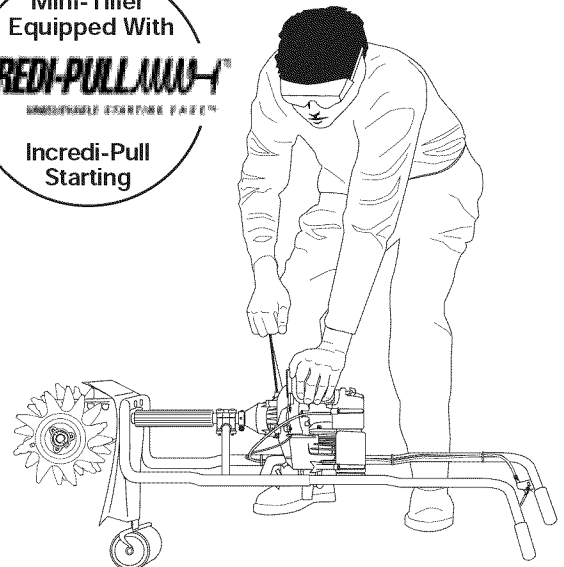

Fig. 10
**WARNING:** Avoid accidental starting. Make sure you are in the starting position when pulling the starter rope (Fig. 10). To avoid serious injury, the operator and unit must be in a stable position while starting.
5. Lay the unit on the ground horizontally, with the ends of the handles resting on the ground (Fig. 10).